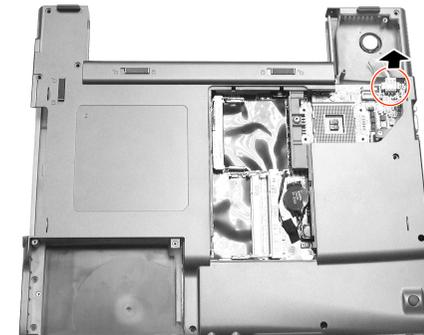

Figure 2-23 Disconnect the cord
5. Disconnect the speaker's cord from system board in the heatsink compartment. (Figure 2-23)